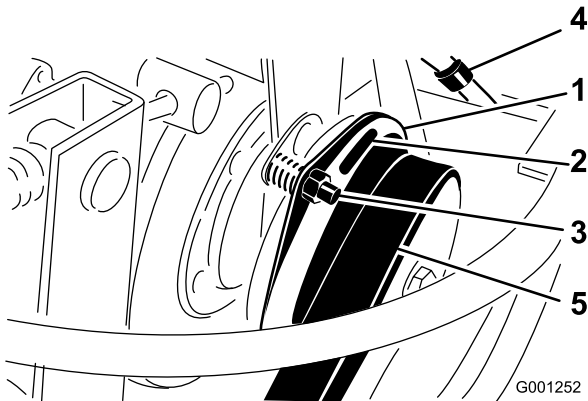

Figure 79
3. Adjust the air gap so that a 0.4 mm (0.015 inch) feeler gauge slides in between the clutch lining and friction plate with light pressure (Figure 79).
Note: You can decrease the gap by turning the adjusting nut clockwise (Figure 79). The maximum service gap is 0.7 mm (0.030 inch). Adjust all 3 air gaps.